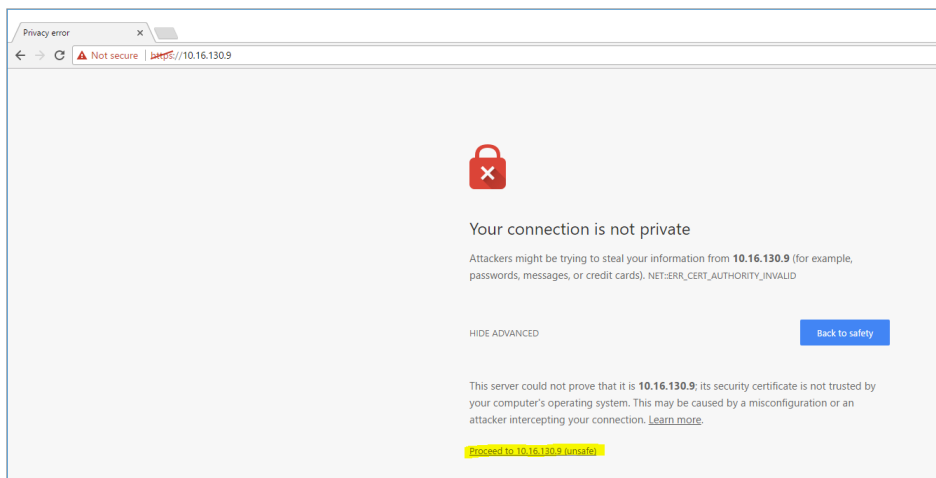

Figure 6: Web interface – second screen
1. Click **Proceed** (Figure 6).